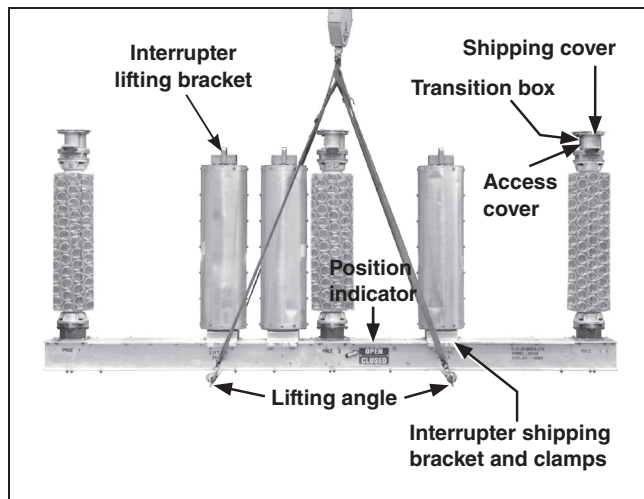

Figure 6. Hoisting the high-speed base using a crane for circuit-switchers rated 69 kV through 138 kV.
- STEP 6.** *For circuit-switchers rated 69 kV through 138 kV:* Attach the lifting angles to the circuit-switcher base using  $\frac{1}{2}$ -3 × 1¼-inch hex-head galvanized steel cap screws, flat washers, and nuts furnished. See Figure 6 on page 11.
Verify the SWITCH-POSITION indicator on the base is visible on the desired side. (This is also the side on which the operator door will open.) See Figure 6.